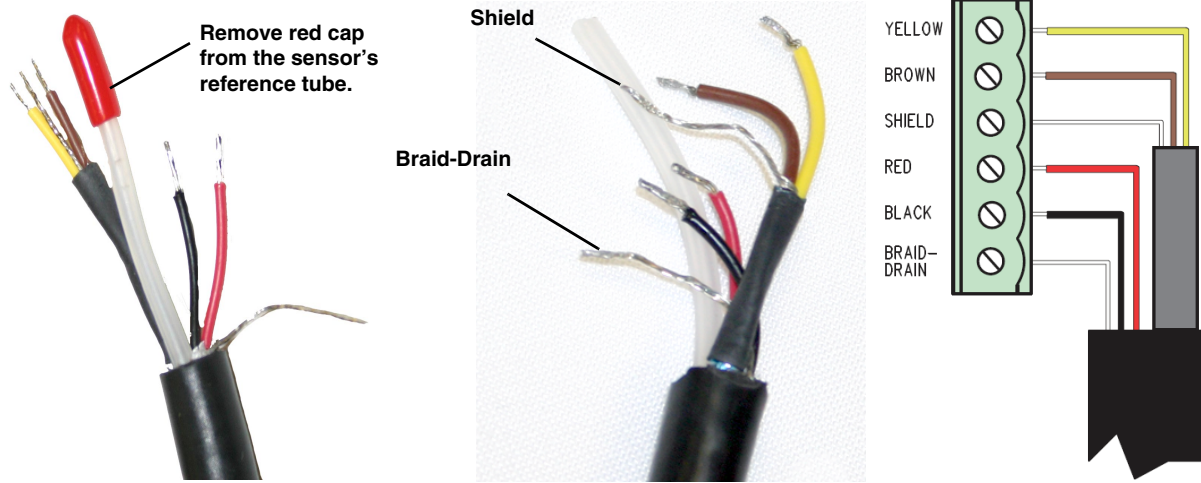
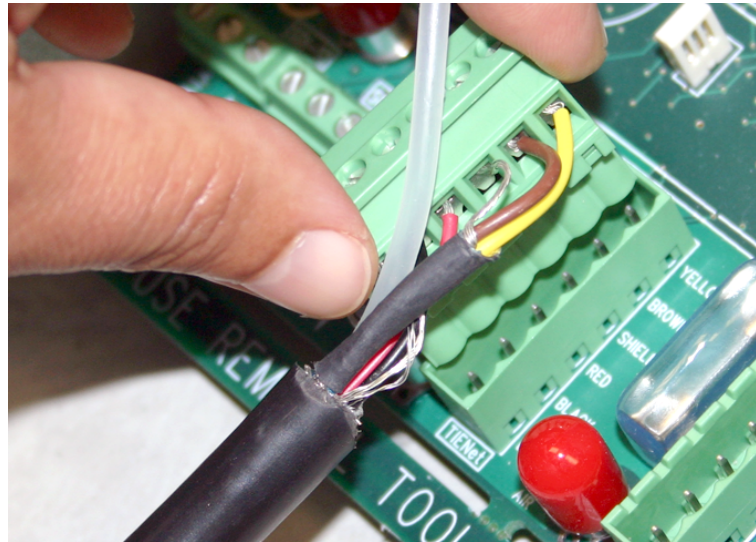

Figure 2-17 TIENet Device terminal connections
Figure 2-18 Attach wired terminal strip to case board socket
4. Attach the wire ends to the terminal strip as shown in Figure 2-17, then press the terminal strip back down into its socket on the case board, as shown in Figure 2-18, taking care not to strain any wire connections. Gently tug each wire when finished, to verify secure connection to the screw terminals.